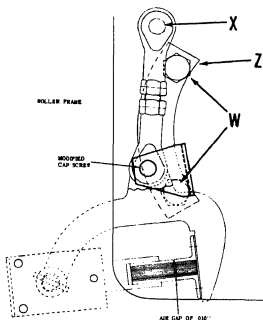

FIGURE 25
14. Figure 25. If machine is equipped with an amplitude indicator, remove top pin (X) and drop mechanism into roller frame. Remove two wheel bolts (W) and remove bracket (Z).